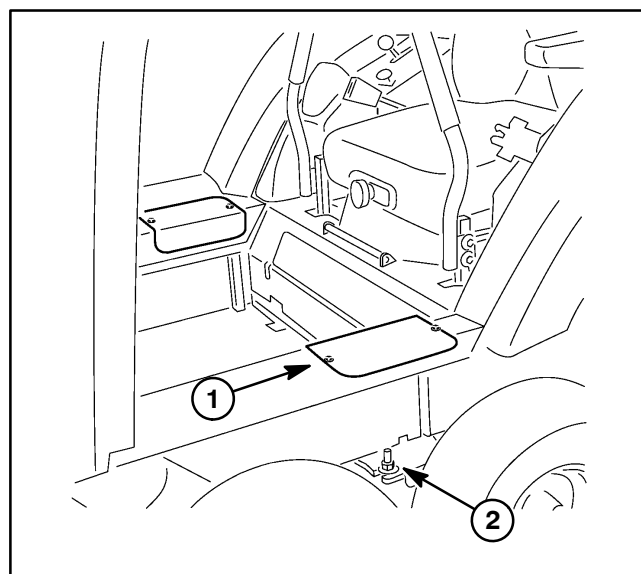

Figure 3
3. Position two (2) jack stands under the rear bumper tube at a height so that they contact or nearly contact the bumper.
4. On the side of the machine that is to have the wheel(s) removed (Fig. 3):
A. Remove two (2) screws securing the side access cover to the machine. Remove the access cover.